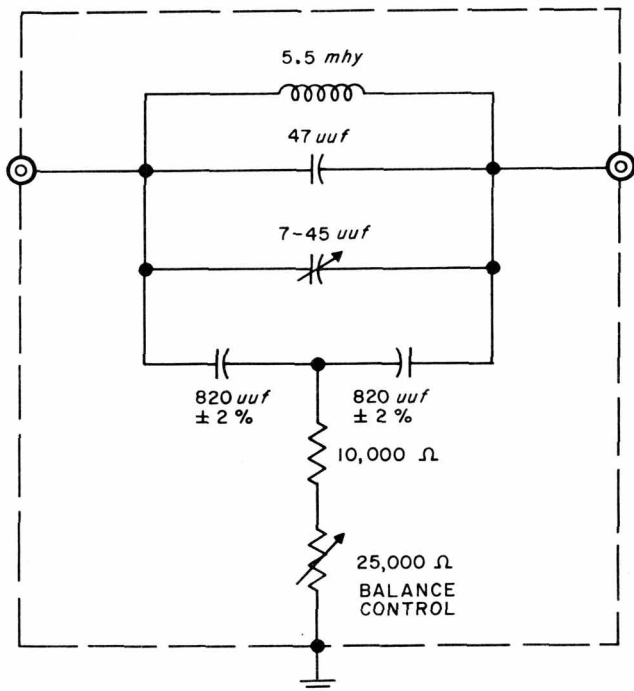
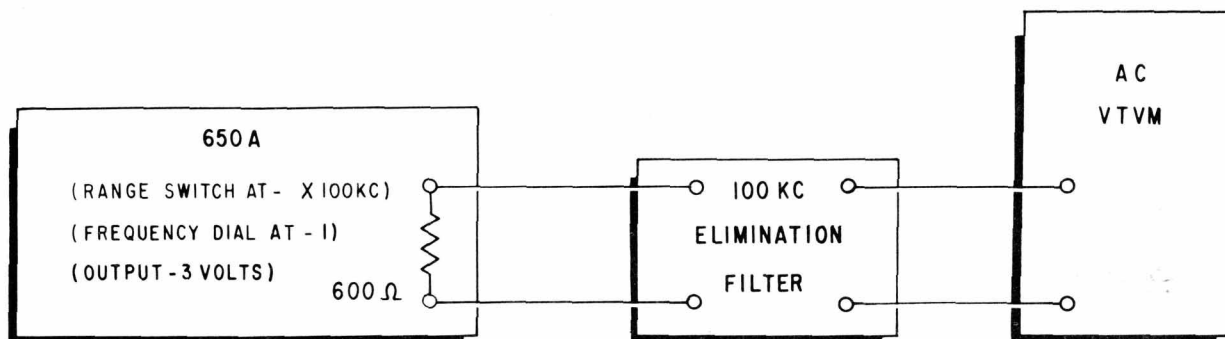

Figure 4-2. 100 KC Filter
Figure 4-4. Equipment for High Frequency Distortion Measurement
- g. Elimination filter for 100 KC as shown in Figure 4-2. Any coil and capacitor combination can be used that will resonate at 100 KC. If a different inductor is used, the value of the balance control and series resistor will have to be changed. The inductor shown in Figure 4-2 can be obtained under -hp- Stock No. 48-3.
d. Connect 100 KC filter shown in Figure 4-2 across output terminals and an external ac meter across filter output terminals. The meter used must be capable of accurately measuring frequencies that are harmonics of 100 KC. See block diagram given in Figure 4-4.